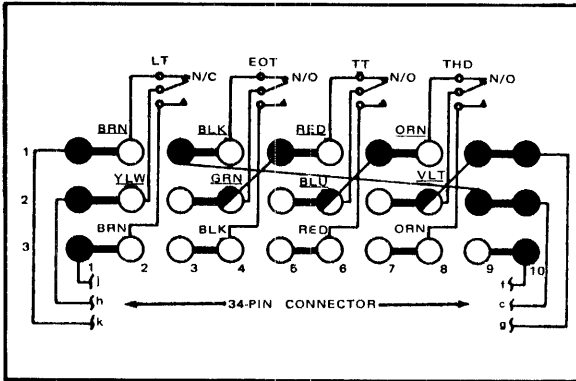

Figure 17
Two Form "C" switches are available as optional equipment to determine the status of the tape supply. They are the Low Tape and End-of-Tape switches. Each switch is connected to the 34 Pin connector through the accessory terminal block, as shown in Figure 17. Two additional options, not discussed in this manual, also use this block and are shown connected in series with the End-of-Tape (EOT) switch. The terminal block is jumpered to connect the EOT switch directly to the output whenever these switches (TT and THD) are omitted.
*Wire Switch and Accessory Block as shown in Figure 17.